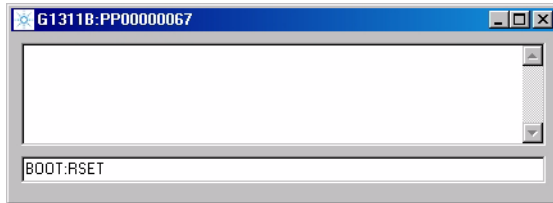

Figure 11 Command Line and Reply Window in LAN/RS-232 Firmware Update Tool
- 5 Re-boot the module so that the change becomes active. You may use the command **BOOT:RSET** from the command line (send instruction window, see Figure 11) or power cycle the module. After re-boot and reconnect the module should now be listed as G1314A.
- 5 Re-boot the module so that the change becomes active. You may use the command **BOOT:RSET** from the command line (send instruction window, see Figure 11 on page 43) or power cycle the module. After re-boot and reconnect the module should now be listed as G1314C.